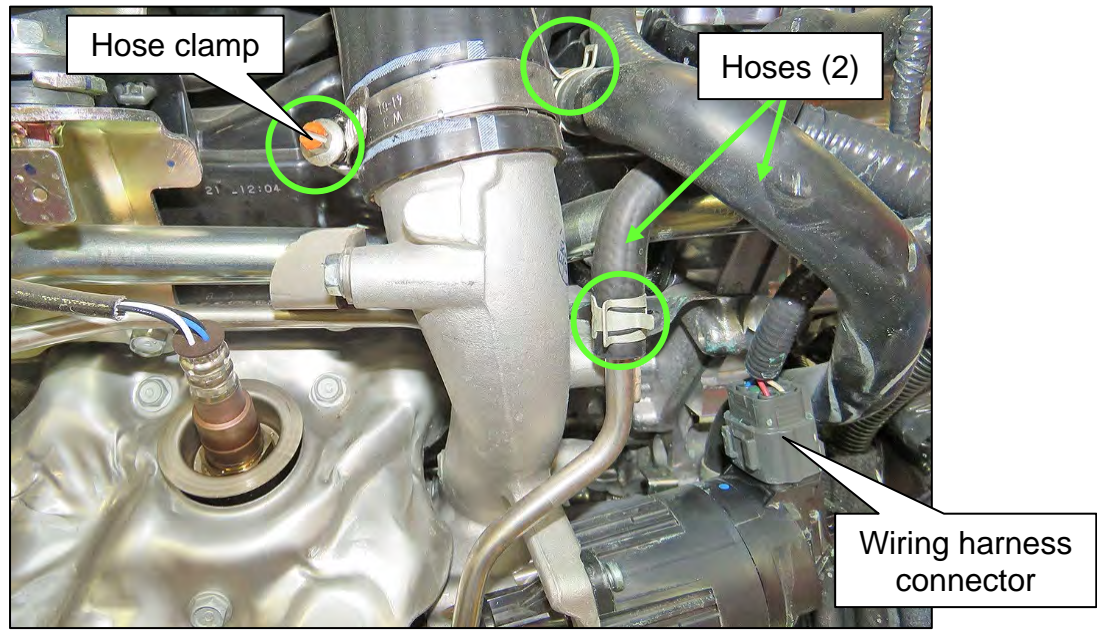

Figure 44
64. Loosen the Air Inlet Hose clamp shown in Figure 44. This hose will be detached in step 81 on page 24.
65. Release the spring clamps and disconnect the two (2) associated hoses, shown in Figure 44.
66. Disconnect the wiring harness connector shown in Figure 44.